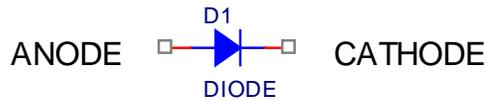

Figure A-1.
*Diodes:* An ideal diode is a device that allows current to flow in only one direction. The symbol of a diode, shown in Figure A-1, looks like an arrow that points in the direction of current flow. The current flows through the diode from the anode to the cathode. The cathode is marked on a real diode by a band.